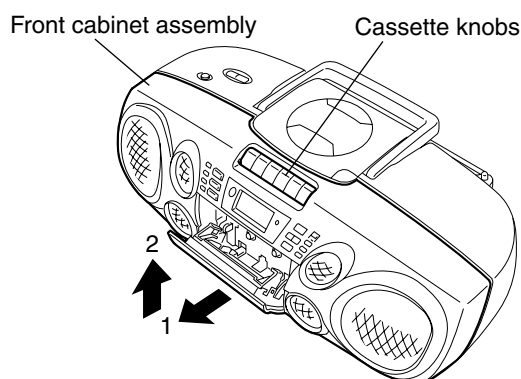

Fig.4
4. Slide the lower part of the front cabinet slightly in the direction of the arrow **1**. (See Fig.4.)
5. While removing the front cabinet assembly from the cassette knobs and remove it in the upward direction **2**. (See Fig.4.)